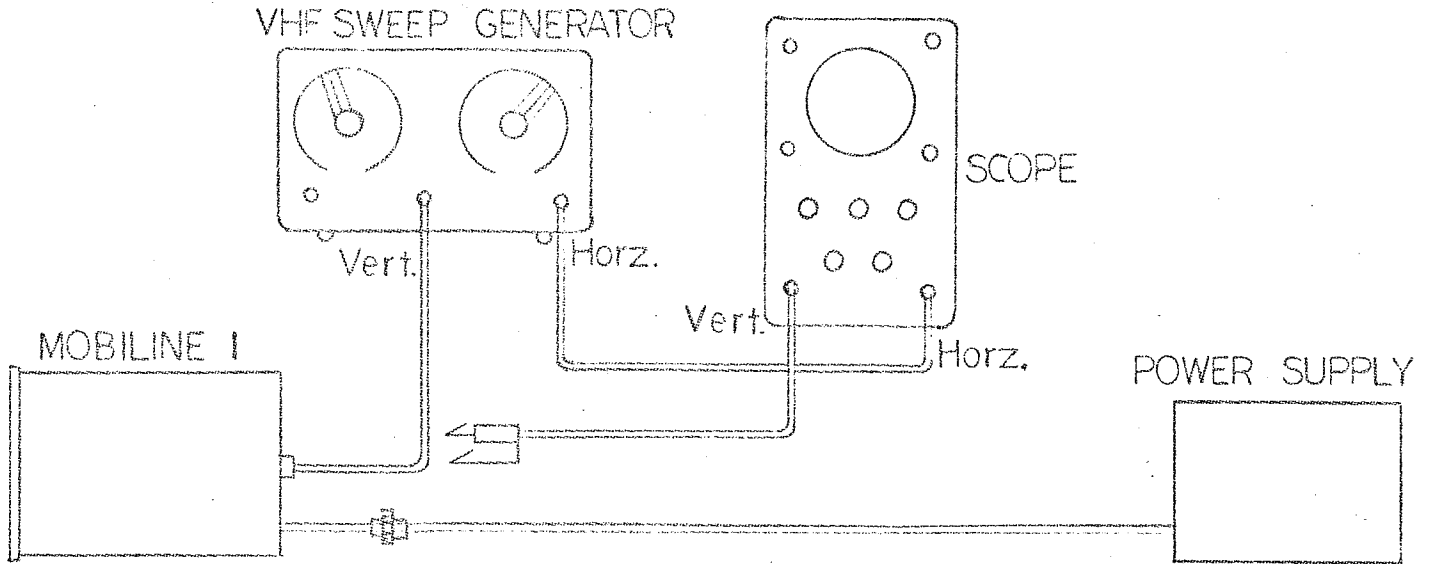

Figure 4-4-1
- Connect the transceiver to the Test and Alignment Setup of Figure 4-4-1.